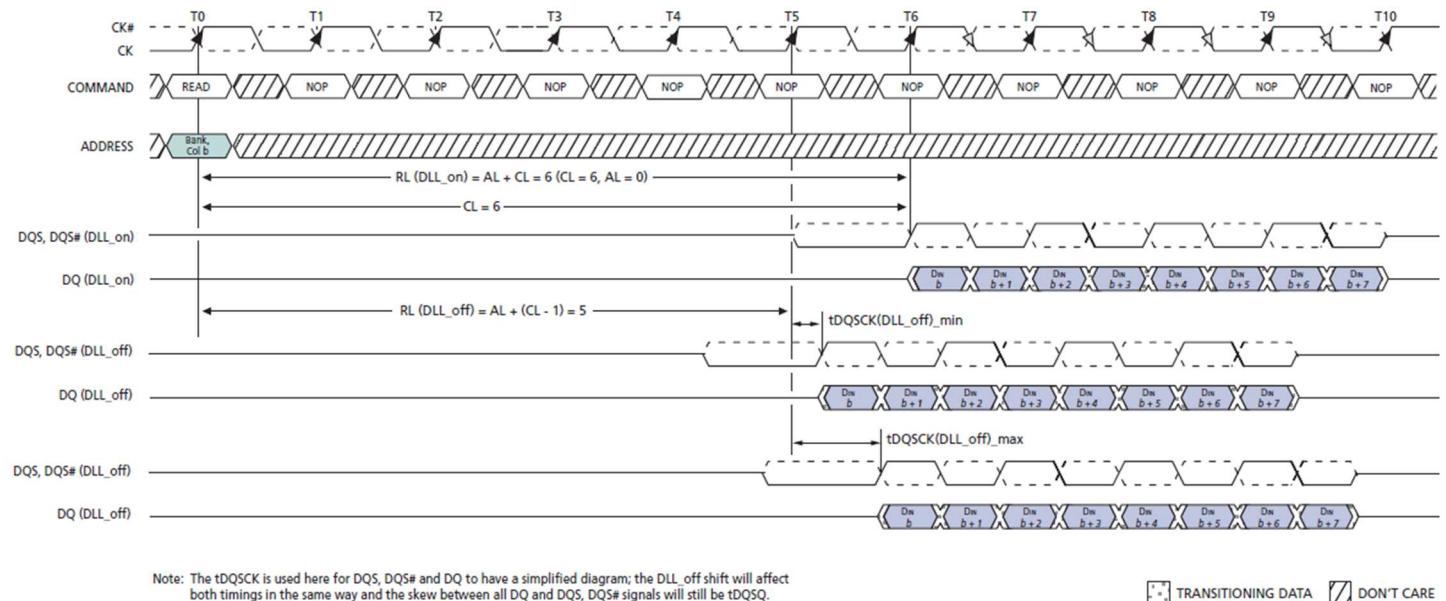

Figure 12 - DLL-off mode READ Timing Operation
3. If the RTT_NOM feature was enabled in the mode register prior to entering Precharge power down mode, the ODT signal must continuously be registered LOW ensuring RTT is in an off state, as shown in Figure 12. If the RTT_NOM feature was disabled in the mode register prior to entering Precharge power down mode, RTT will remain in the off state. The ODT signal can be registered either LOW or HIGH in this case